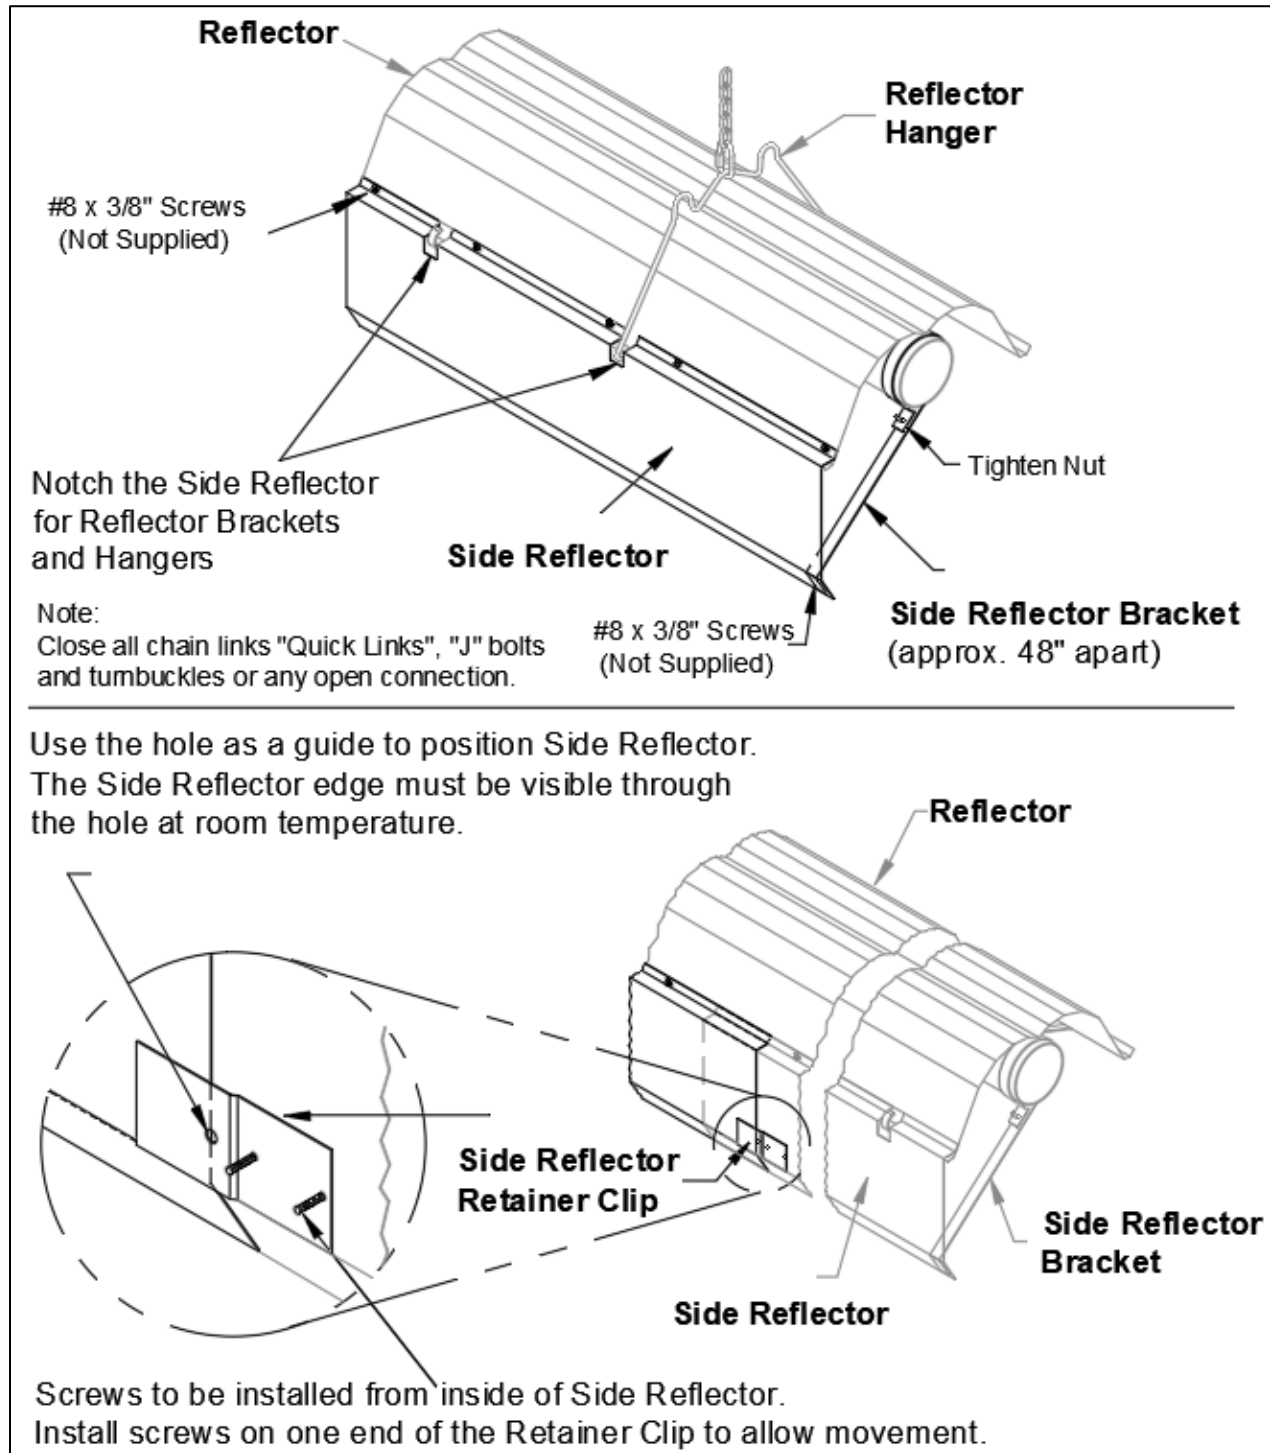
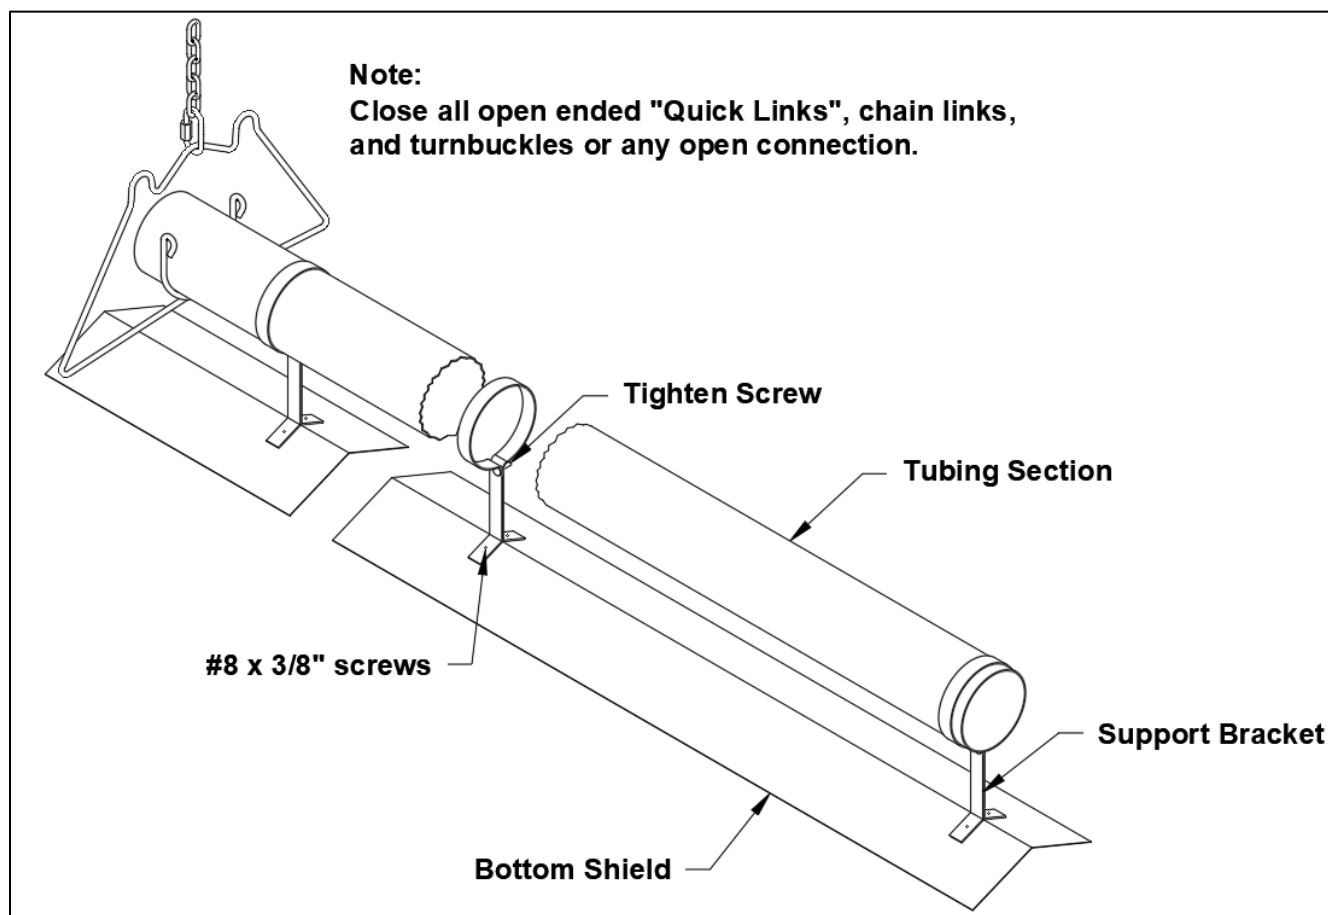

Figure 19: Side Shield Overlap
Figure 20: Bottom Shield Installation
- If used, install side shields (reflectors) and/or bottom shield as required. Refer to Figure 19 and Figure 20 for details.
- Side shields are 124" (315cm) long. Fasten one side shield per reflector with #8 x 3/8" screws. Use three side shield brackets per side shield. Space about 48" (122cm) apart, refer to Figure 19.
- Bottom shields need not overlap. Each 5' section is held with two support brackets (see Figure 20).